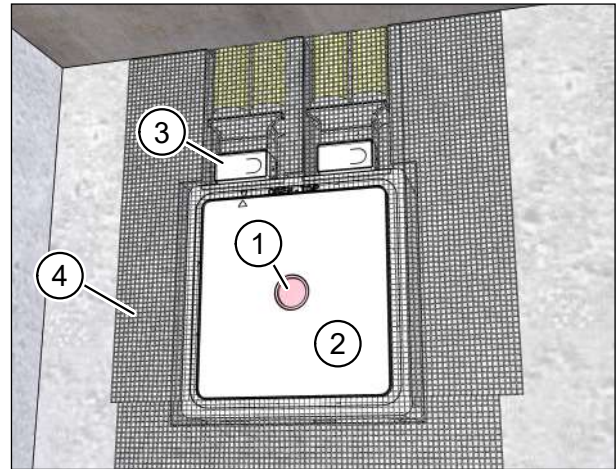

Fig. 25: Plastering the installation kit on the inside
- ▶ Make sure that the signal cover (item 1 in Fig. 25) is seated in the plaster cover (item 2 in Fig. 25).
- ▶ Make sure that the protective covers (item 3 in Fig. 25) are seated in the flexible pipe connections.
- ▶ Apply the plaster scrim M-WRG-PG (item 4 in Fig. 25) to the installation kit and the solid wall.